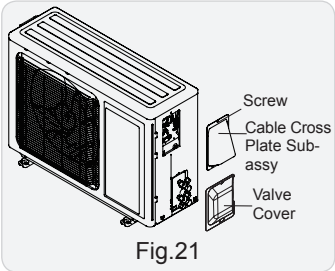

Fig.21
- (1) Remove the screw on the right valve cover of outdoor unit and then remove the valve cover. (As show in Fig.21)
- (2) Remove the screw cap of valve and aim the pipe joint at the bellmouth of pipe.